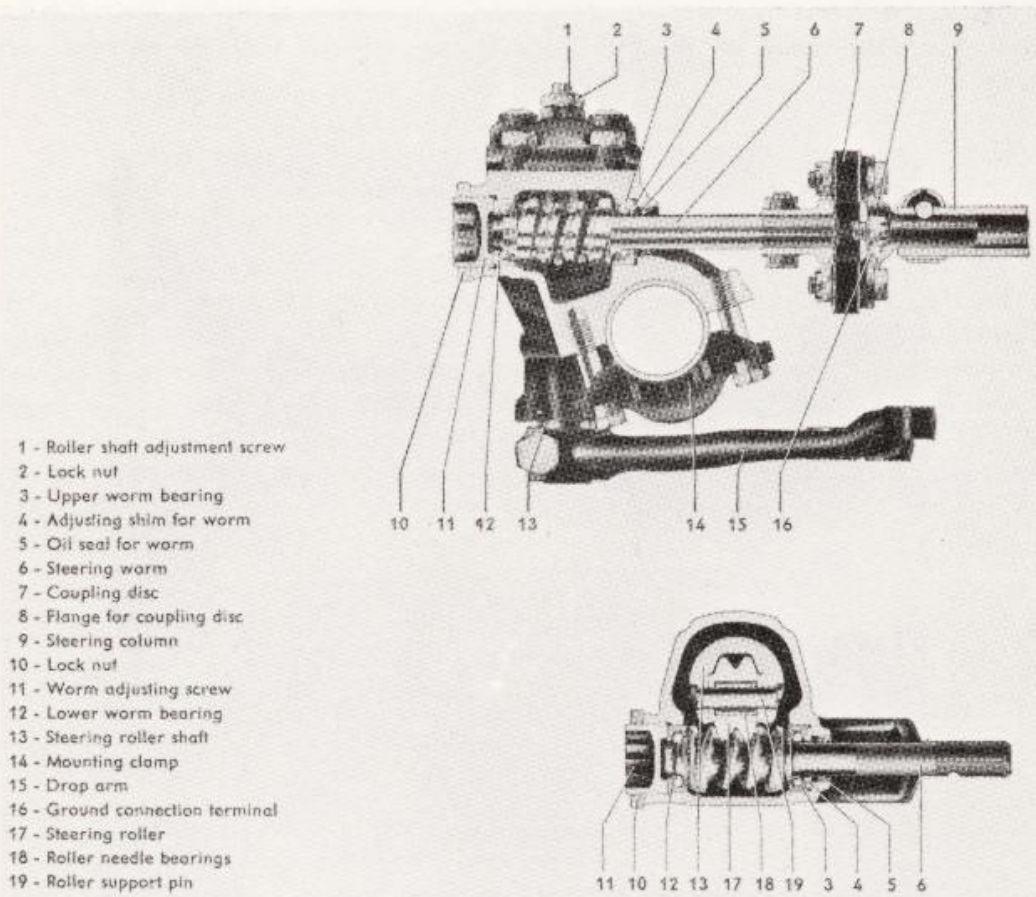

Fig. G-22. Roller type steering gear is used on all Beetle models (after August, 1961) and on Type 3 and Squareback models.
mounted roller, Fig. G-22. The worm is mounted in two ball bearings in the steering gear case. The steering roller shaft is supported in the steering gear case and cover by bronze bushings.
The steering worm is adjusted by a shim which is situated under the upper ball bearing. The meshing depth of the roller shaft and the resulting lack of play in the steering lock is adjusted by an adjusting screw in the steering gear case cover, Fig. G-22.
- 2 - Loosen lock nut of steering worm adjusting screw, Fig. G-22, No. 11.
- 1 - If there is more than 1 in. of play at steering wheel when it is turned 90 deg. to left or right, loosen roller shaft adjusting screw lock nut, Fig. G-22, No. 11.